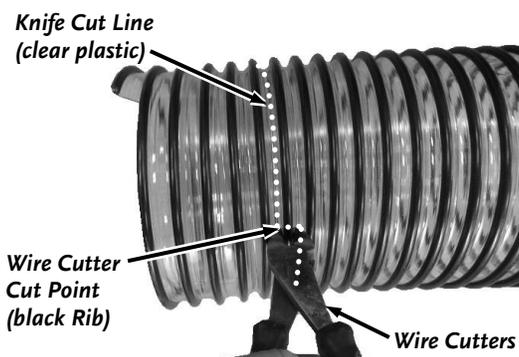

Figure 70
- d. Trace the area to cut around the Hose first to ensure your path meets at the opposite side (**Figure 70**).